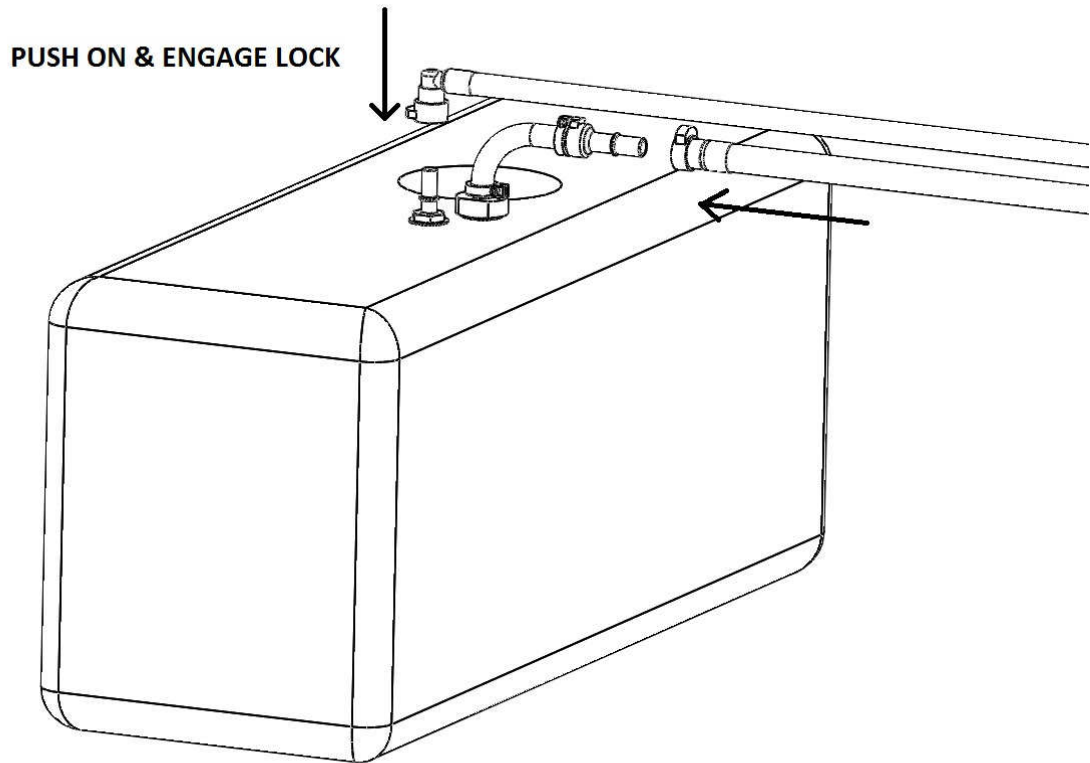

FIGURE 1-1
1. Use the hose marked 118-01E1-0 for the return line. Place the 90 degree hose end onto the return fitting and engage retaining clip. Now take the hose marked 118-01E2-0 and push it onto the 5/8" tank fitting connection. **FIGURE 1-1**